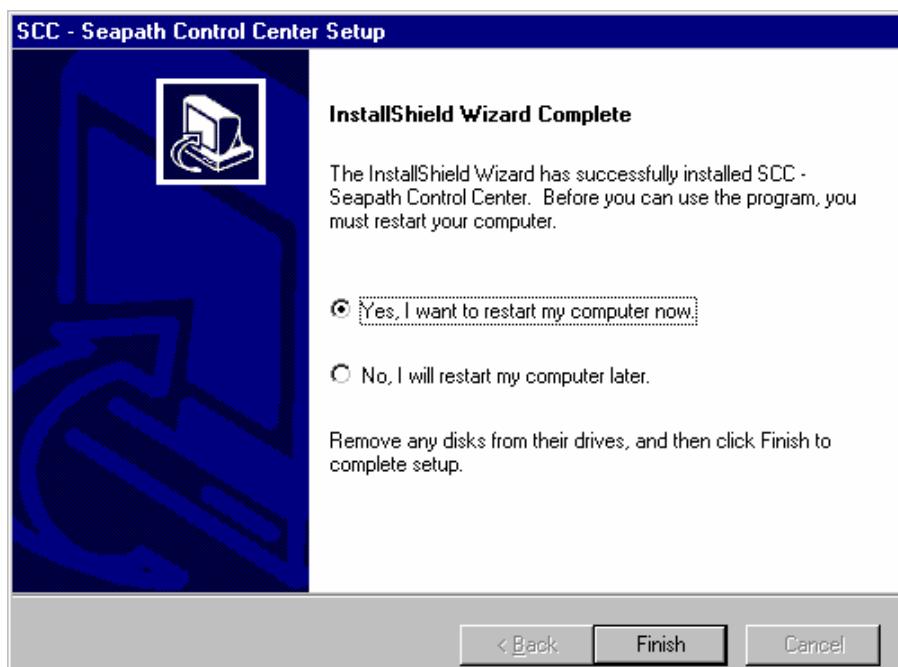

Figure 18 Installation Complete
3. When the installation of files is finished, the window shown in Figure 18 appears. Choose to restart the computer now or later. Click **Finish** and the setup is complete. Remove the diskette.